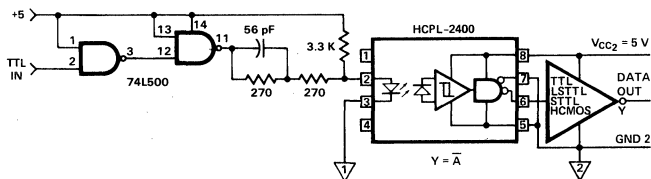

Figure 13. Recommended 20 MBd HCPL-2400/11 Interface Circuit
- This specification simulates the worst case operating conditions of the HCPL-2400/11 over the recommended operating temperature and V_{CC} range with the suggested applications circuit of Figure 13.
A recommended LED drive circuit is shown in Figure 13. This circuit utilizes several techniques to minimize the total pulse-width distortion at the output of the optocoupler. By using two inverting TTL gates connected in series, the inherent pulse-width distortion of each gate cancels the distortion of the other gate. For best results, the two series-connected gates should be from the same package.
The circuit in Figure 13 also uses techniques known as prebias and peaking to enhance the performance of the optocoupler LED. Prebias is a small forward voltage applied to the LED when the LED is off. This small prebias voltage partially charges the junction capacitance of the LED, allowing the LED to turn on more quickly. The speed of the LED is further increased by applying momentary current peaks to the LED during the turn-on and turn-off transitions of the drive current. These peak currents help